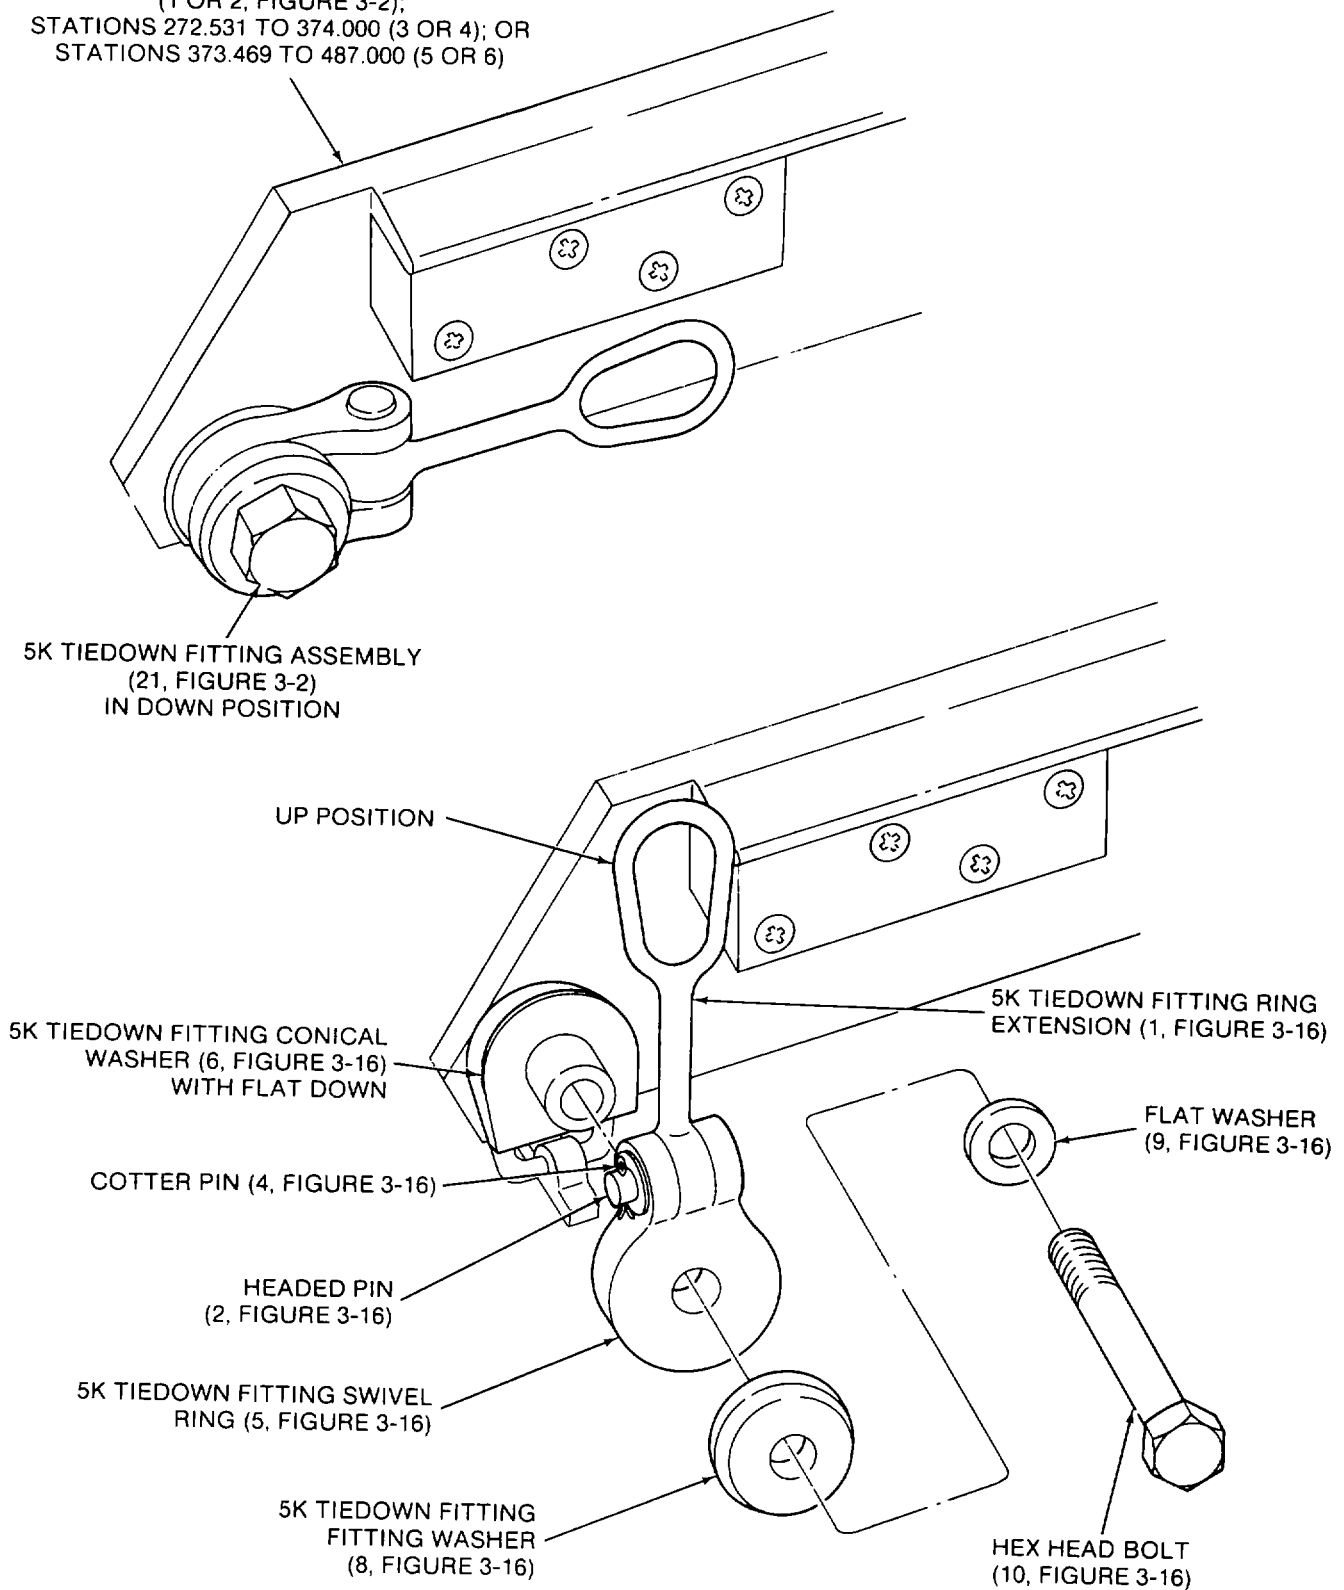

Figure 2-28. 5k Tiedown Fitting Assembly Installation
b. Refer to Figure 2-28 and remove 5k tiedown fitting assemblies (21, Figure 3-2) located at stations 380.000, 420.000, 440.000 and 460.000 as shown in Figure 2-33.